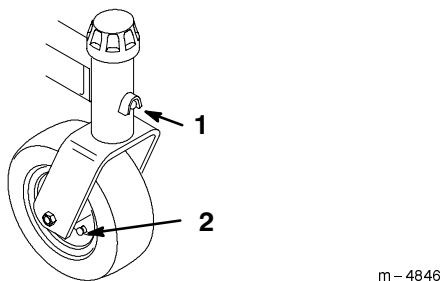

Figure 68
- Grease the fittings on the carrier frame castor hubs and castor wheels (Fig. 68).